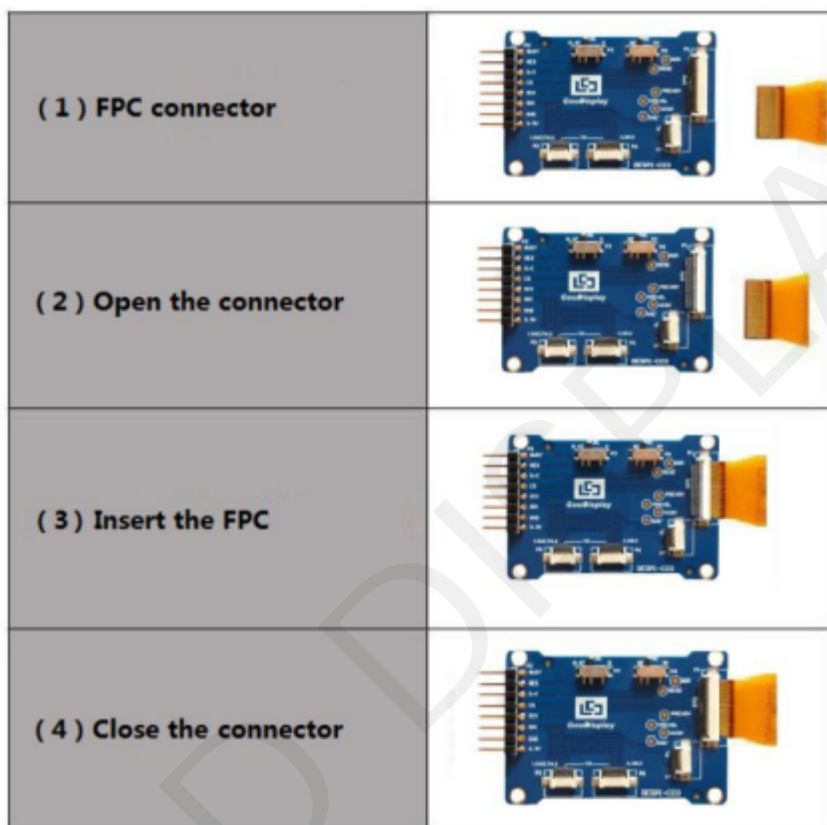

Figure 5 : Connection between DESPI-C03 and e-paper
3) Connect the e-paper FPC to DESPI-C03 as shown in Figure 5. (Pay attention to the direction of the e-paper.) And set P8 to NC.
DESPI-C03 supports 3.3 V powered front light panel driving, the corresponding interface is P7 as shown in Figure 5. The pin definitions are as follows: 3.3V (1,2), NC (3,4), GND (5,6). The power supply of front light panel must be divided from the power supply of e-paper, otherwise it may affect the display of e-paper.